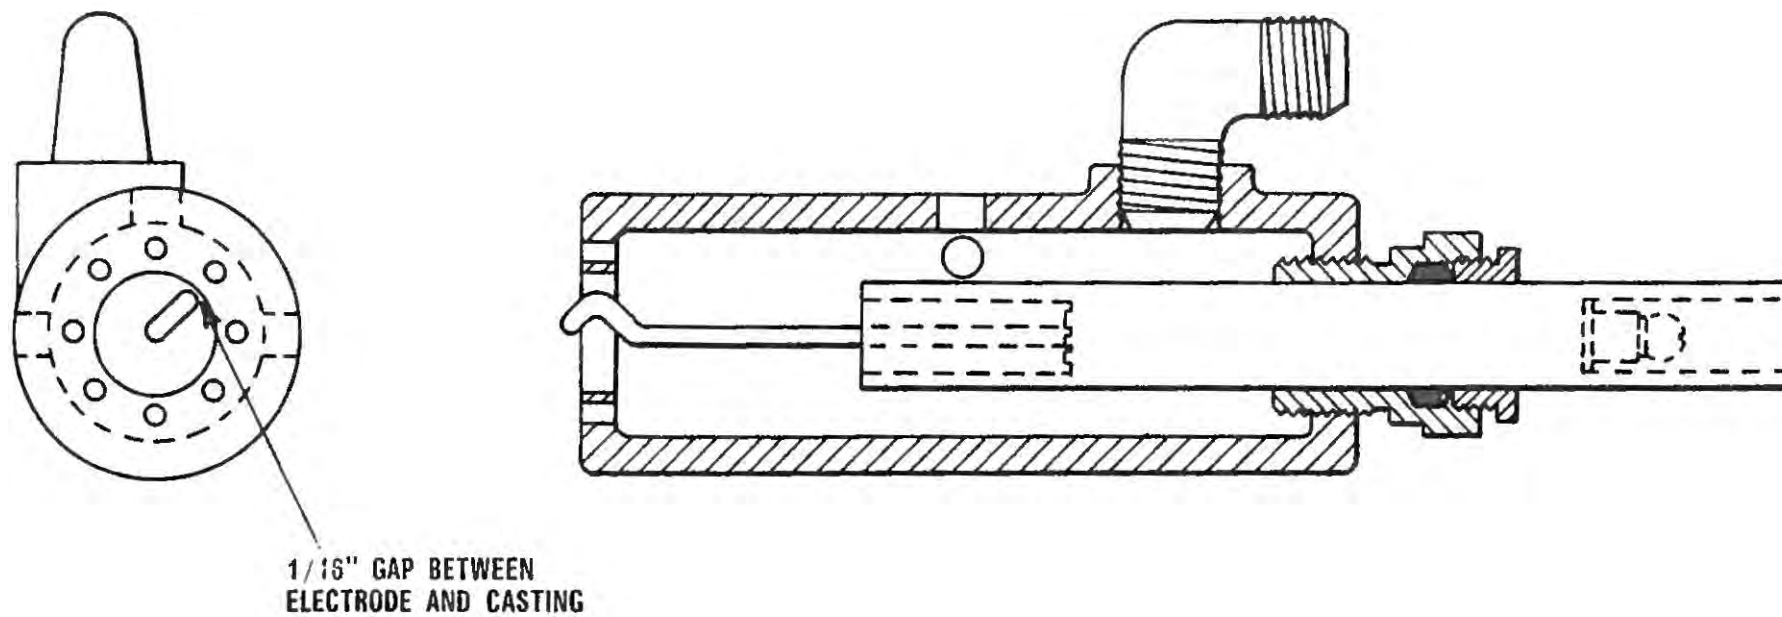

FIG. 5-2 GAS-ELECTRIC IGNITER (INTERNAL TYPE) - BURNERS 300 THRU 750 HP.
2. Maintain a spark gap of $1/16''$ to $1/8''$ between the electrode and the igniter body on an internal gas pilot (Fig. 5-2). The electrode must be centered in the igniter body opening on the external pilot (Fig. 5-1).